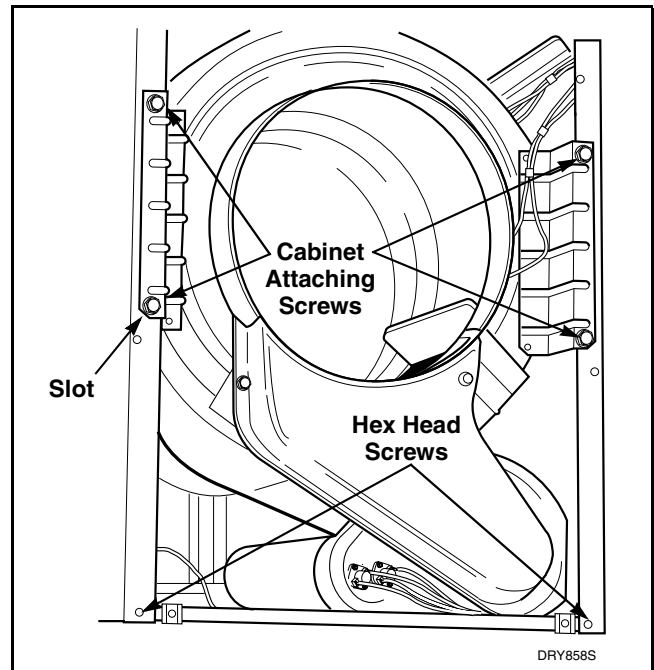

Figure 24
- Remove four cabinet attaching screws holding bulkhead to front flange of cabinet and lift complete bulkhead assembly out of slots in cabinet. Refer to *Figure 24*.
- c. Remove four hex head screws holding bulkhead to front flange of cabinet. Then lift complete bulkhead assembly out of slots in cabinet. Refer to *Figure 24*.